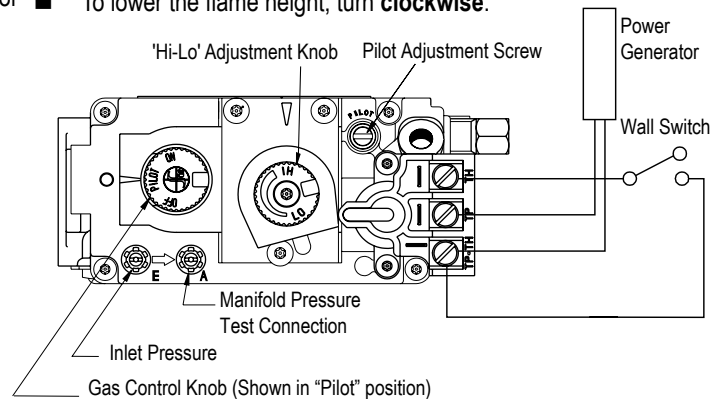

Figure 28. 'Hi-Lo' Adjustment on the SIT Nova 820 gas valve.
The H*38DF*ST is equipped with an adjustable burner, allowing you to raise or lower the flames. To adjust the flames, locate the black knob marked 'Hi-Lo', in the centre of the gas control valve (See **Figure 28**).
1. Locate Pilot Adjustment Screw. (See **figure 28 or 29**.)